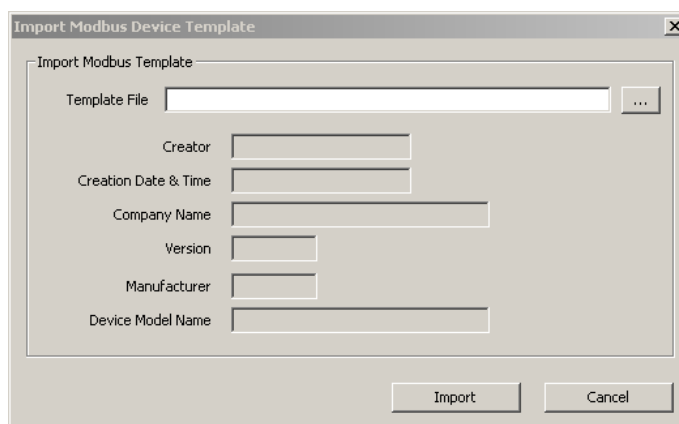

Figure 133 Import Modbus Device Template dialog.
3. Click on the **Create From Template** button. This opens the **Import Modbus Device Template** dialog shown in Figure 133.
3. Click on the **Create with DP** button. This opens the **Import Modbus Device Template** dialog shown in Figure 133.